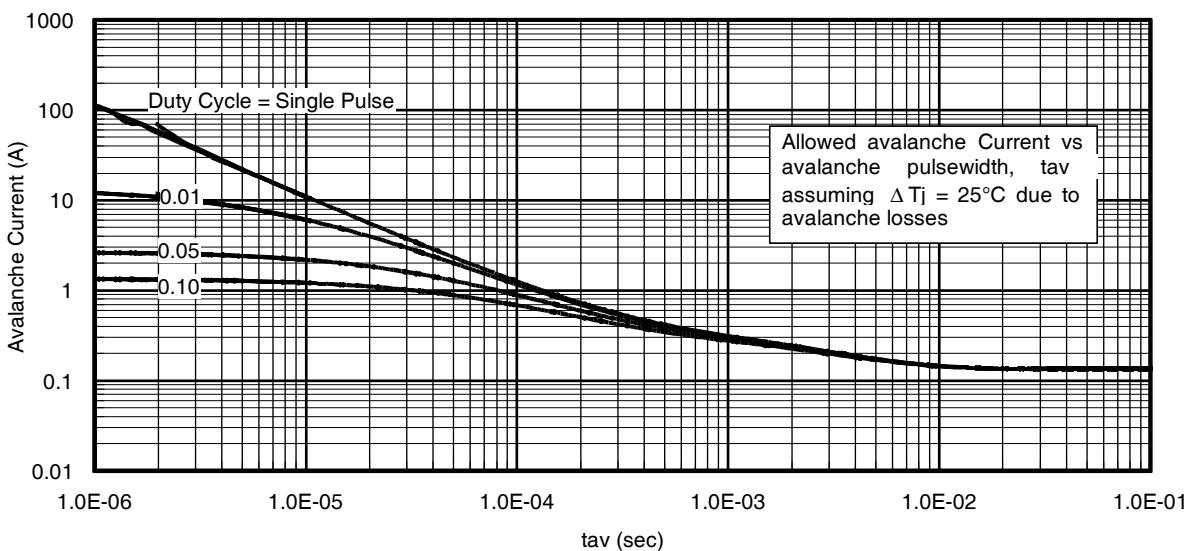

Fig 14. Typical Avalanche Current Vs. Pulsewidth
- ① Repetitive rating; pulse width limited by max. junction temperature.
② Starting $T_J = 25^\circ\text{C}$, $L = 1.62\text{mH}$, $R_G = 25\Omega$, $I_{\text{AS}} = 11\text{A}$.
③ Pulse width $\leq 400\mu\text{s}$; duty cycle $\leq 2\%$.
④ R_θ is measured at T_J of approximately 90°C .
⑤ Limited by T_{jmax} . See Figs. 14, 15, 17a, 17b for repetitive avalanche information.
Notes on Repetitive Avalanche Curves , Figures 14, 15:
7. ΔT = Allowable rise in junction temperature, not to exceed T_{jmax} (assumed as 25°C in Figure 14, 15).